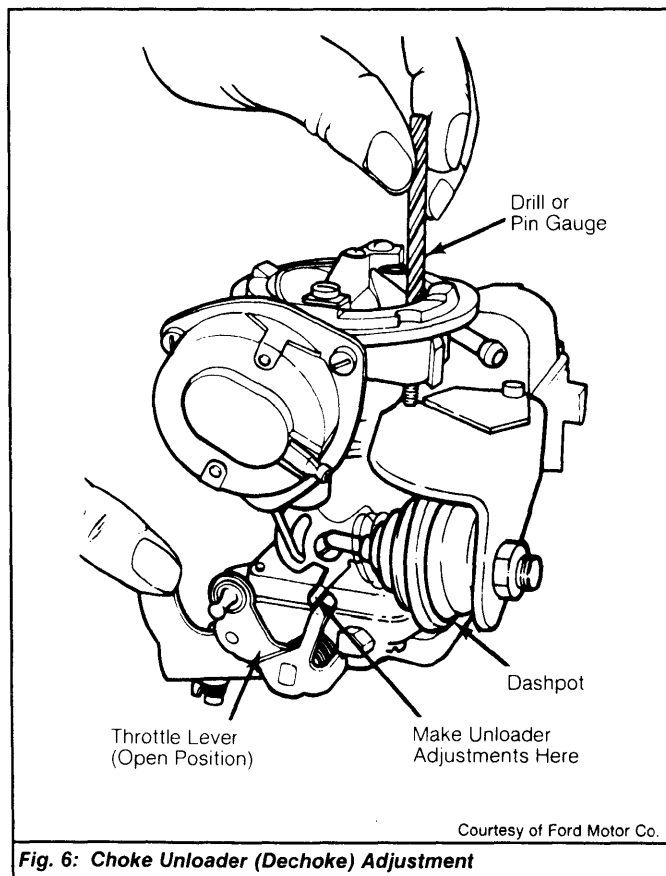

Fig. 6: Choke Unloader (Dechoke) Adjustment
- 3) Adjust by bending arm on choke lever of throttle lever. See Fig. 6.